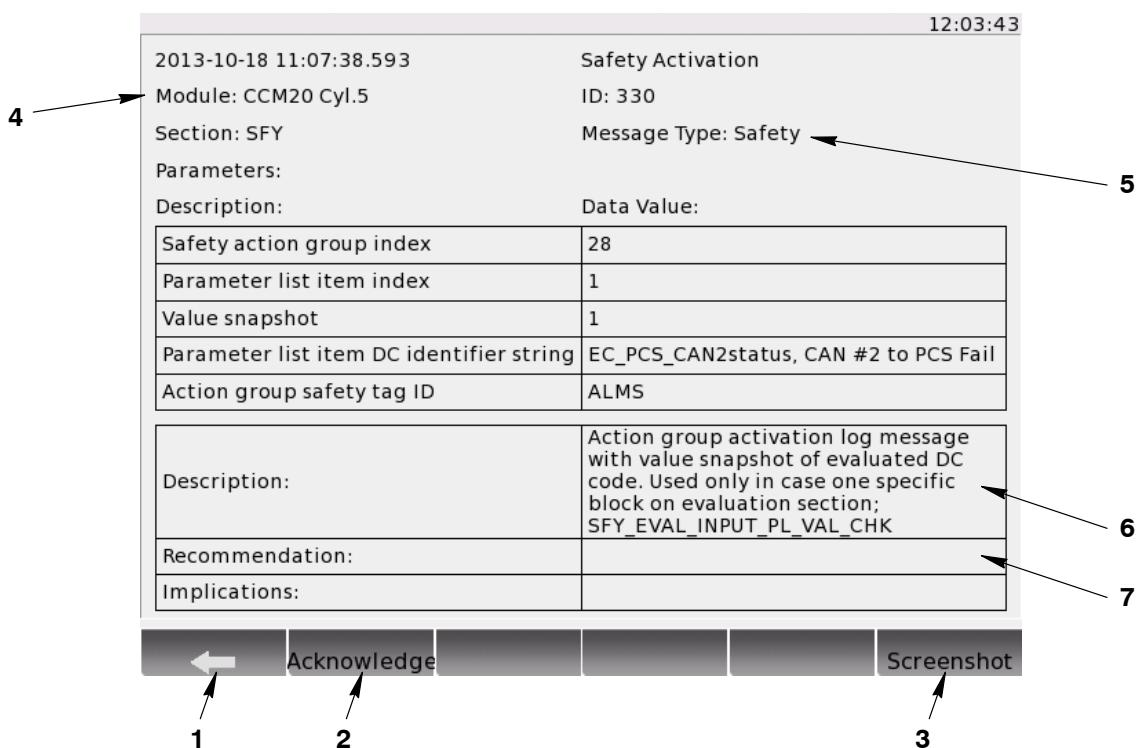

Fig. 18: Log Entry Data
- 1) Connect a USB drive to the USB port on the rear of the LDU before you select the Export button (2, Fig. 18).